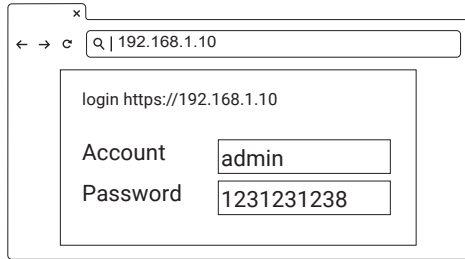

Figure 33. Login
- 2) See Figure 33. On the EVSE Homepage, login with the credentials that follow: